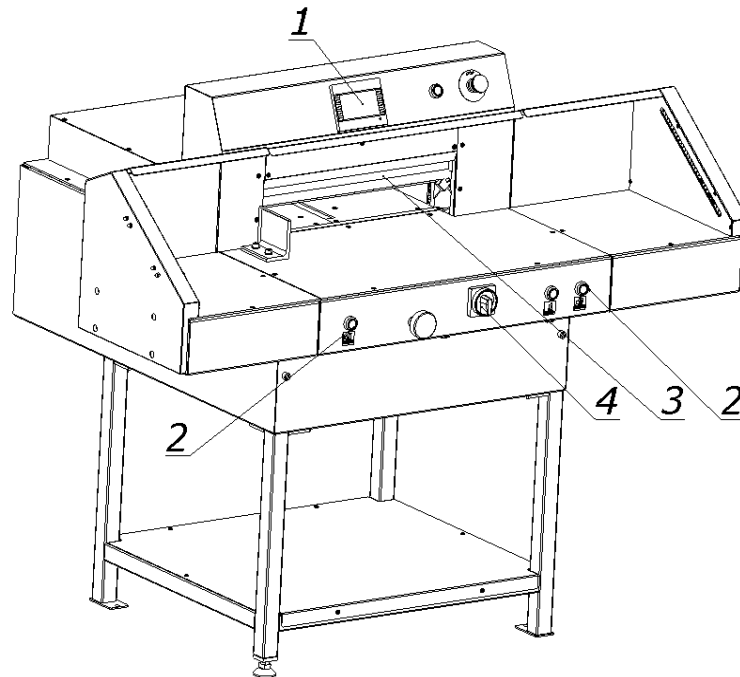

Figure 20.
**8.1.1.1** Select the "Change knife" function on the programmer 1 screen (Fig.20) ("Programmer's manual").
**8.1.1.2** Pressing the push buttons 2  (fig.20) at the same time, start the cutting cycle. The knife 3 is held in the lower position.
**8.1.1.3.** Turn off the power supply of the electrical system by turning the main switch knob 4 (fig.20) to the "0" position.